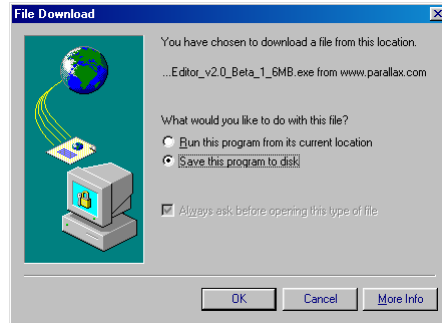

Figure 1-6
- ✓ When the File Download window shown in Figure 1-6 appears, select: Save this program to disk.